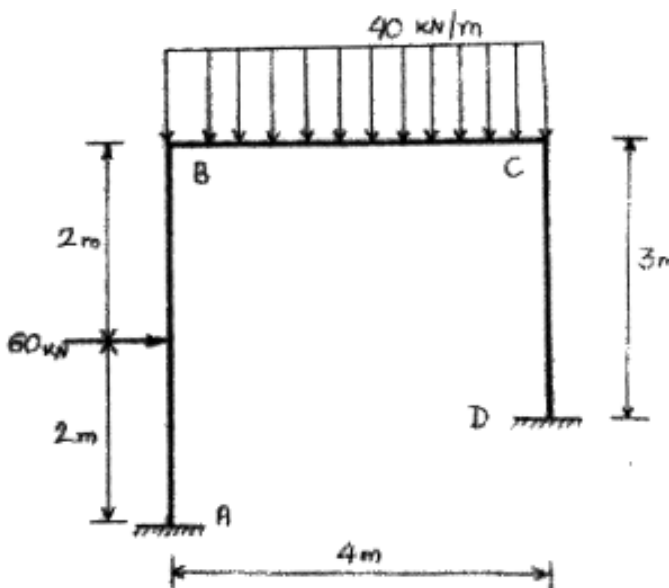

Fig. 4
4. Using Moment Distribution method determine end moments of the members of a frame loaded and supported as shown in figure. EI is same throughout. Plot BMD. Refer Fig. 4